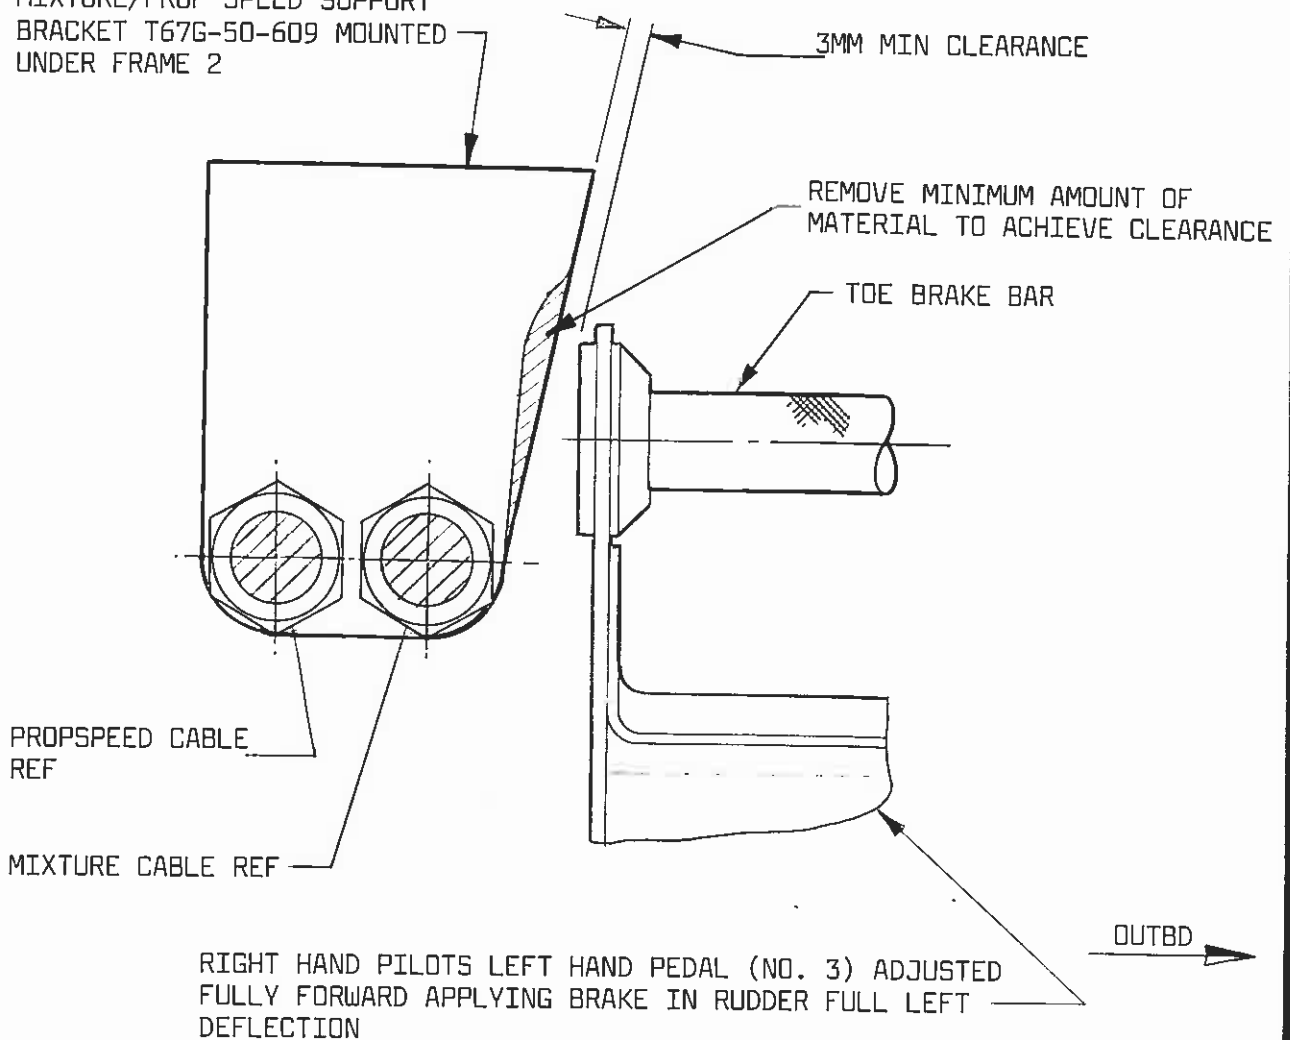

FIG 2
2. With R.H. pilots left pedal (Pedal No.3) adjusted fully forward, with left rudder applied, apply brake together with a left hand side force on the pedal. Check for clearance on mixture/prop speed cable support bracket, ref Fig. 2.
- 2.1 If there is a positive foul then either i) invoke Mod M687A and B or ii) if Mod M687A and B is unavailable, remove material from bracket ref Fig. 2 to achieve a clearance of within 3mm. Change bracket when Mod M687A and B available.